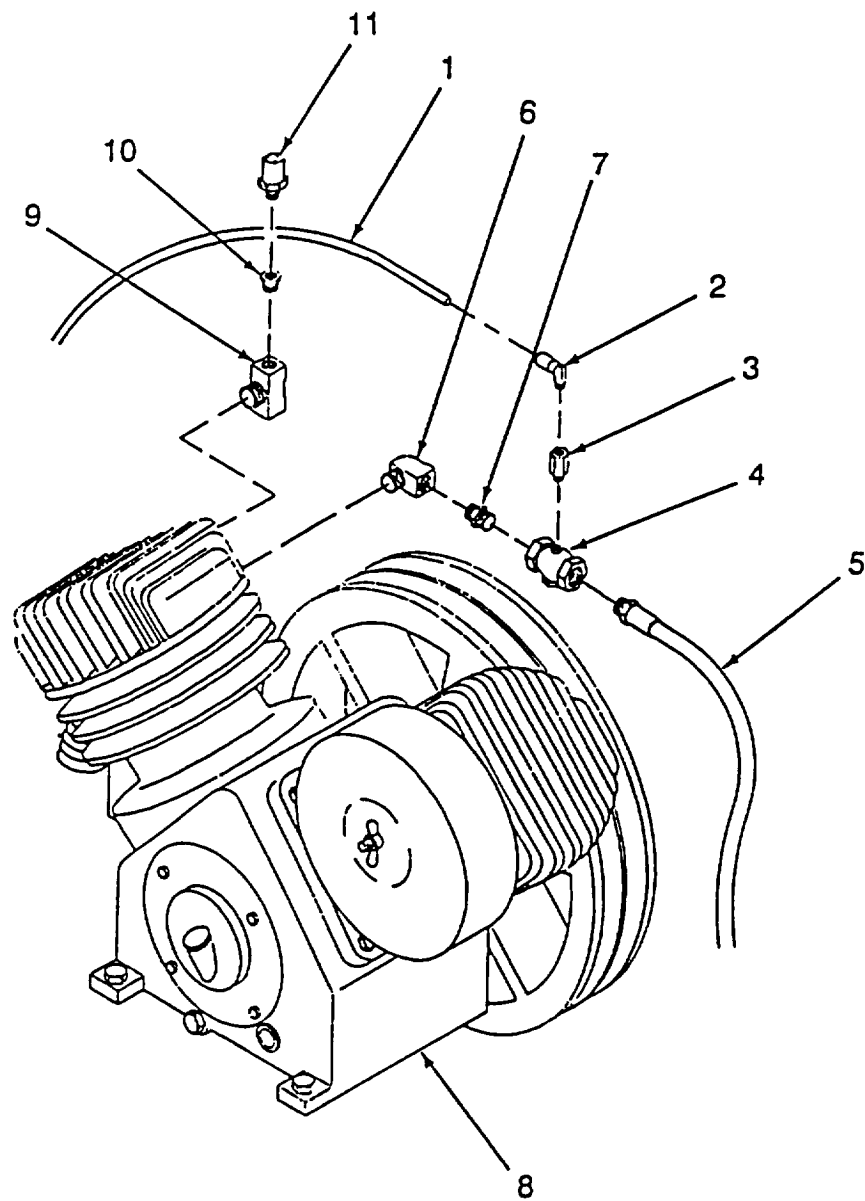

Figure 4-24. Plumbing
a. Removal. (Refer to Figure 4-24).